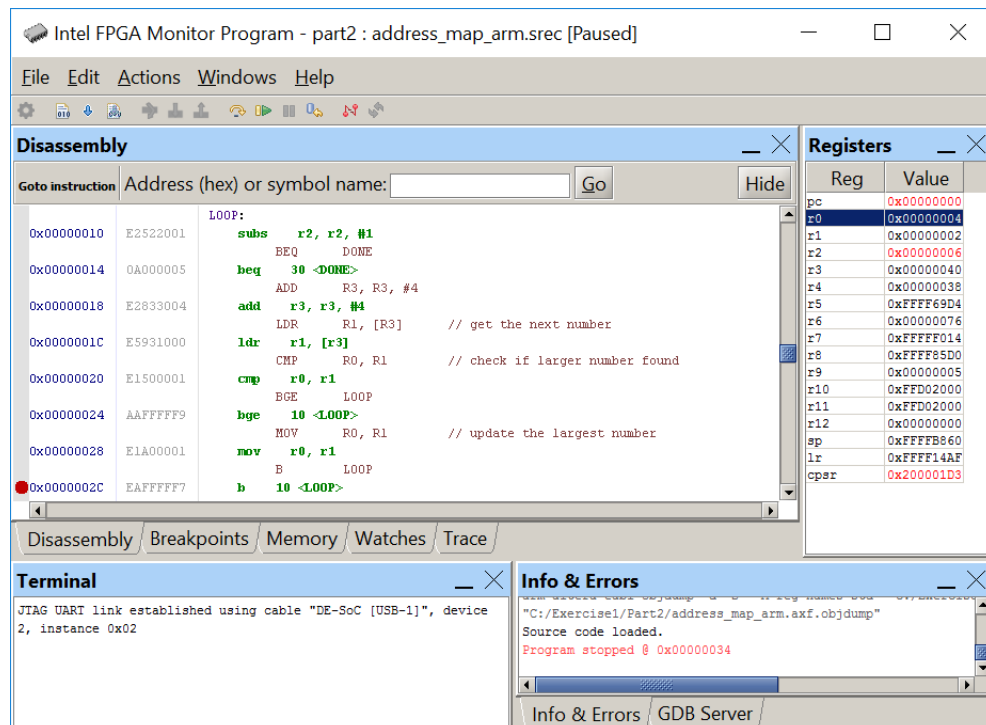

Figure 12: Setting a breakpoint.
7. Now set a breakpoint at address 0x0000002C by clicking on the gray bar to the left of this address, as illustrated in Figure 12. Restart the program and run it again. Observe the contents of register R0 each time the instruction at the breakpoint, which is **B LOOP**, is reached.